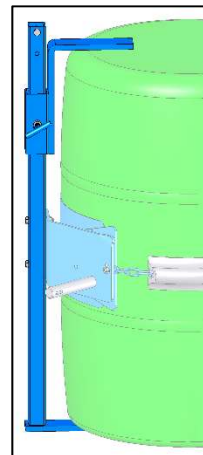

Figure 2.1
- The **Bracket Assembly** (Kit # 4556-P) is **required** to handle a plastic drum without a top rim (see figure 2.1). It is also recommended to more securely handle a fiber drum. You can use the Bracket Assembly with a 55-gallon plastic, steel or fiber drum. The brace at top and bottom of the drum prevents it from slipping lengthways through the drum holder. It adjusts for a drum 31" to 39" tall.